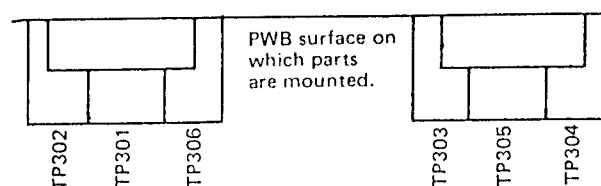

Figure 46.
- 1) In the same manner as deck-(1), set deck-(2) to the record mode and input the PAL colour-bar signal.
- 2) Connect the probe of the oscilloscope between TP302 and TP301 (ground). The test points are arranged as shown in figure 46.